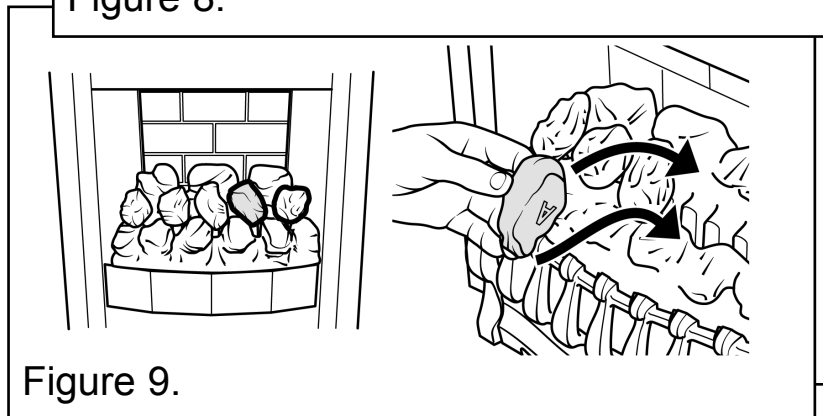

Figure 9.
7. Place the remaining type “A” coal between the front and rear base coals. The letter “A” should be upside down with its rear face between the right and centre coals of the rear base coal. Angle the coal so that the gap between it and the type “B” coal to its right is appreciably larger than the gap between it and the type “A” coal to its left but do not have it touching the type “A” coal. This will give the best flame effect. See figure 9.